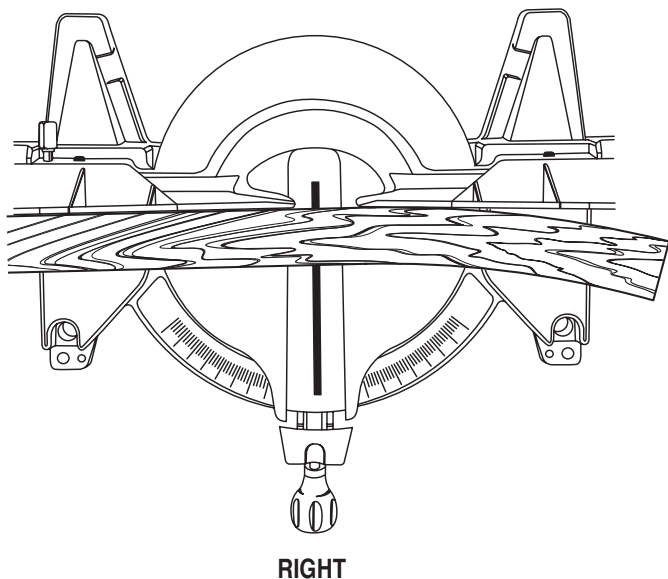

Fig. 30
- Place the workpiece flat on the miter table with one edge securely against the fence. If the board is warped, place the convex side against the fence. If the concave edge of a board could collapse on the blade at the end of the cut, jamming the blade. *See Figures 30 and 31.*
See Figures 30 and 31.
When cutting warped material, always make sure it is positioned on the miter table with the convex side against the fence as shown in figure 30.